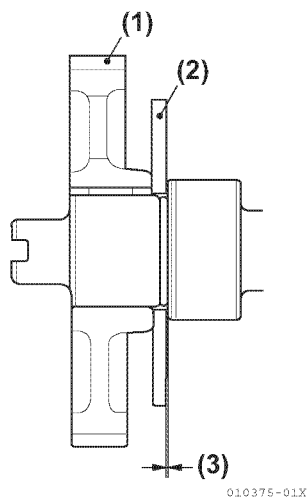

Figure 5-142
17. Measure the camshaft side gap (Figure 5-142). Ensure the camshaft rotates smoothly.